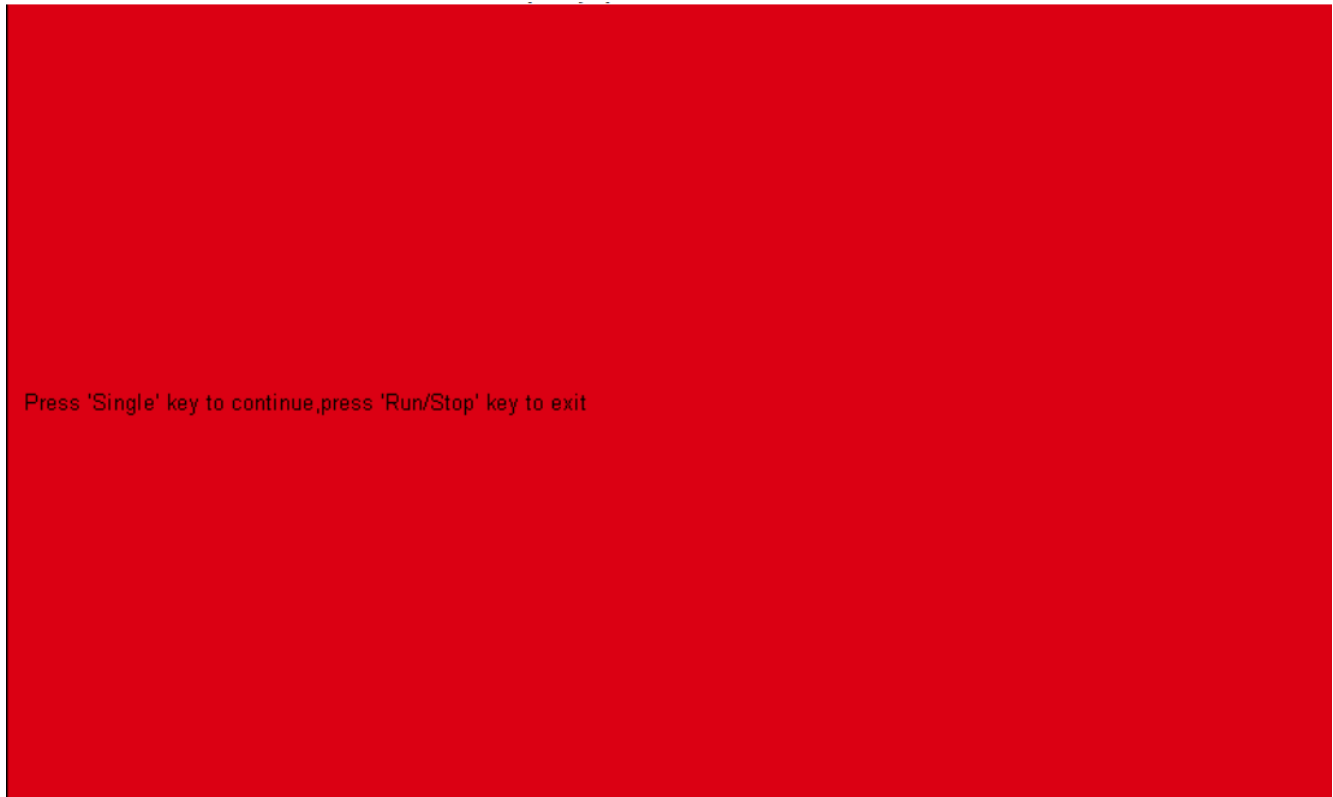

Figure 23.6 Screen Test
3. Press the **Screen Test** softkey to enter the screen test interface, as shown in figure 23.6